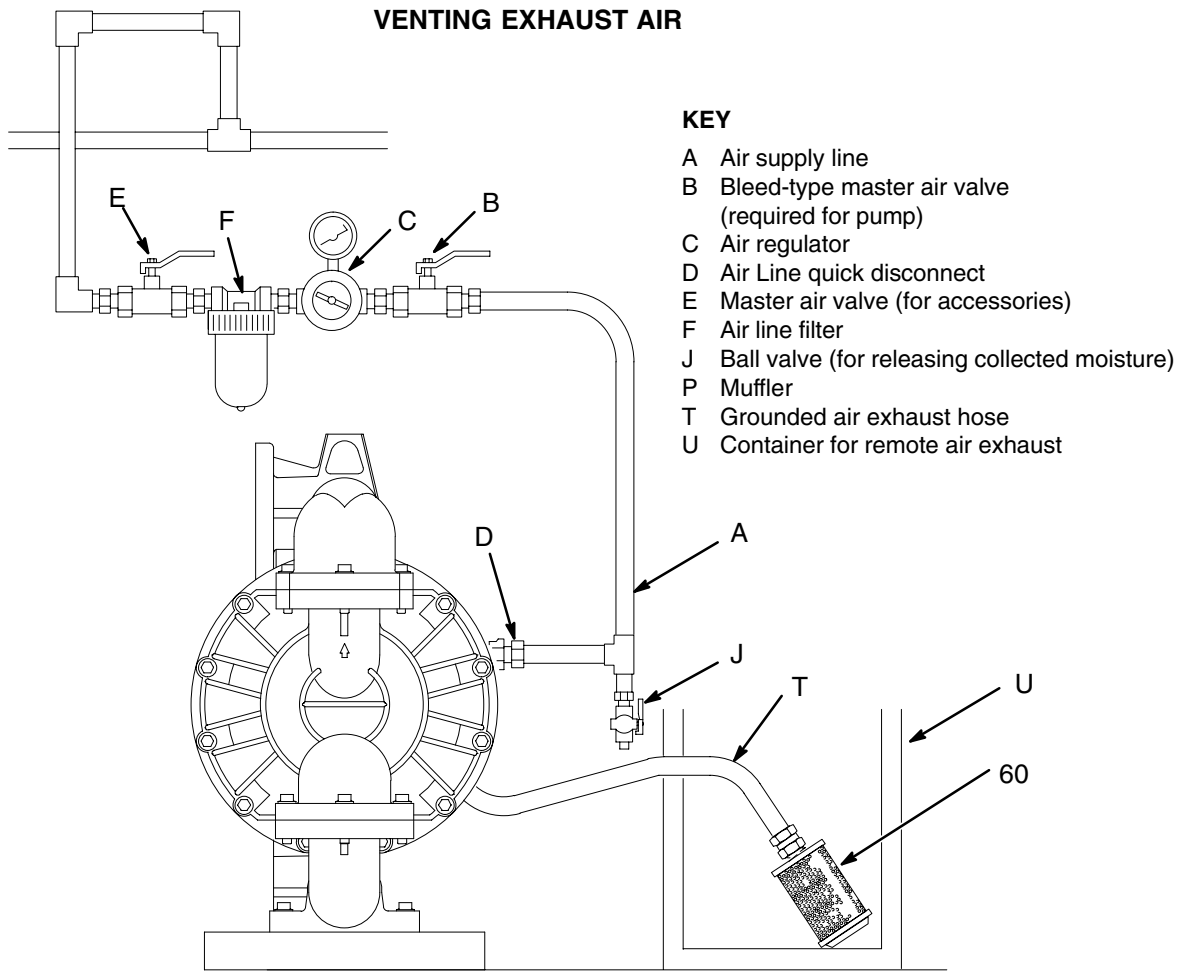

Fig. 3
1. Remove the muffler (60) from the pump air exhaust port.
2. Install a grounded air exhaust hose (T) and connect the muffler (60) to the other end of the hose. The minimum size for the air exhaust hose is 1 in. (25.4 mm) ID x 5 ft (1.5 m). If a longer hose is required, use a larger diameter hose. Avoid sharp bends or kinks in the hose. See Fig. 3.
3. Place a container (U) at the end of the air exhaust line to catch fluid in case a diaphragm ruptures.